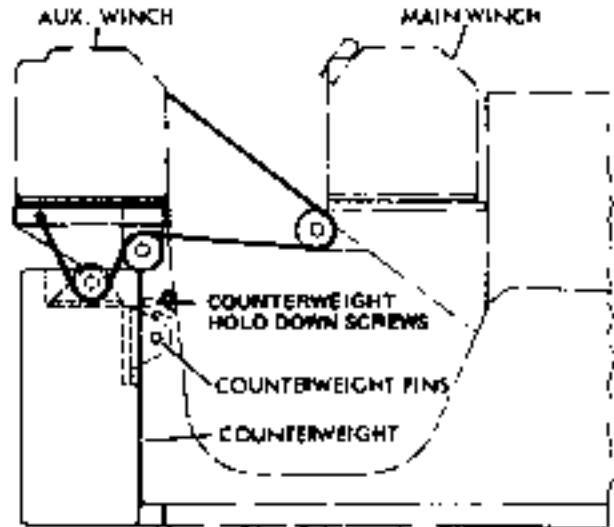

Figure 2-19. Counterweight Removal (100N2382)
2. Reeve the auxiliary winch line as shown in Figure 2-19 and dead end the cable by means of the cable socket to the bottom of the winch platform.